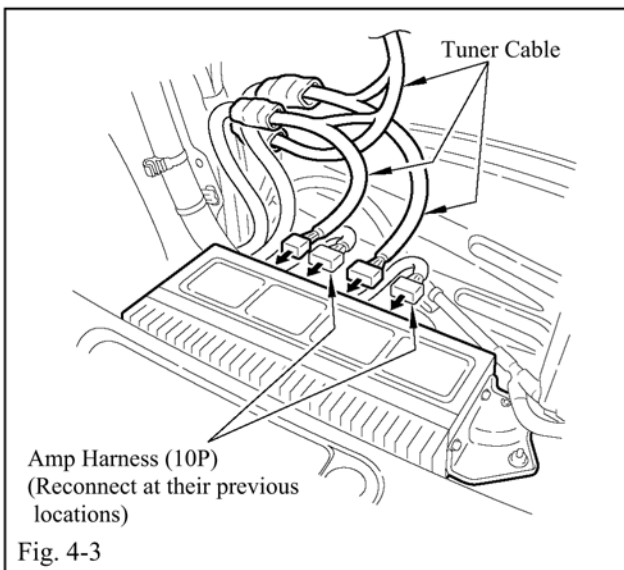

Fig. 4-3
**NOTE :** The 10P connectors (2 locations) are removed to facilitate connection of the tuner cable (Fig. 4-3).
- (d) Connect the tuner cable and amp harness to the amp (Fig. 4-3).